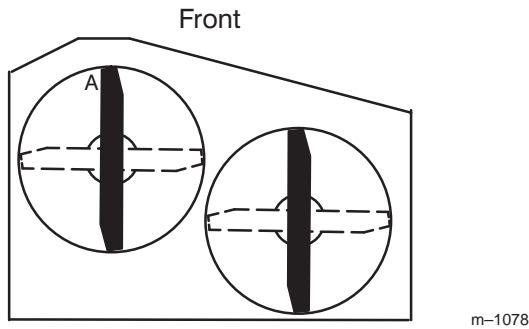
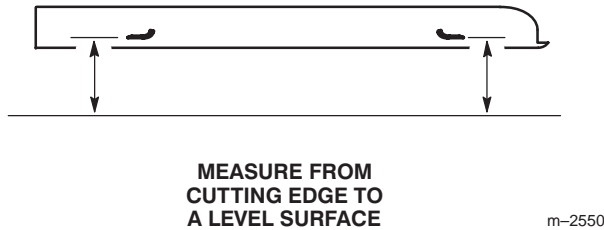

Figure 52
Figure 53
3. With the machine on level surface, position one blade front-to-rear (Fig. 52). Measure at "A" and from level surface to the cutting edge of the blade tips (Fig. 53).